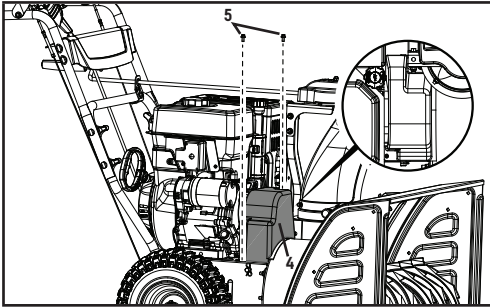

Figure 44
10. Install the plastic belt cover (4) using two M6 × 16 bolts (5) set aside from an earlier step. Torque until snug. Do not overtighten or you risk damaging the plastic belt cover (Fig. 44).